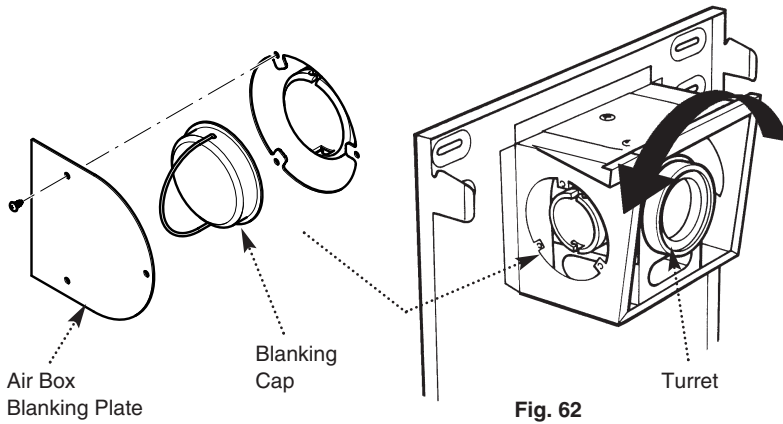
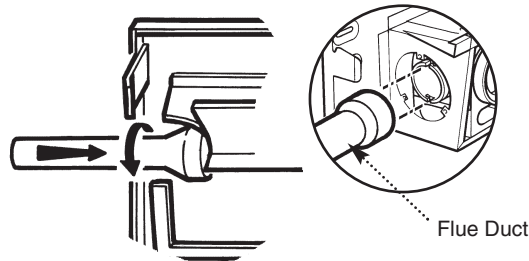

Fig. 61
Fig. 62
1. Remove the left or right hand air box blanking plate, as appropriate, from the back plate air box by releasing the three screws (Fig. 61).
2. Rotate the turret to face the selected opening (Fig. 62) and remove the side blanking cap by pushing in and turning anti-clockwise to release the bayonet fitting (Fig. 61).